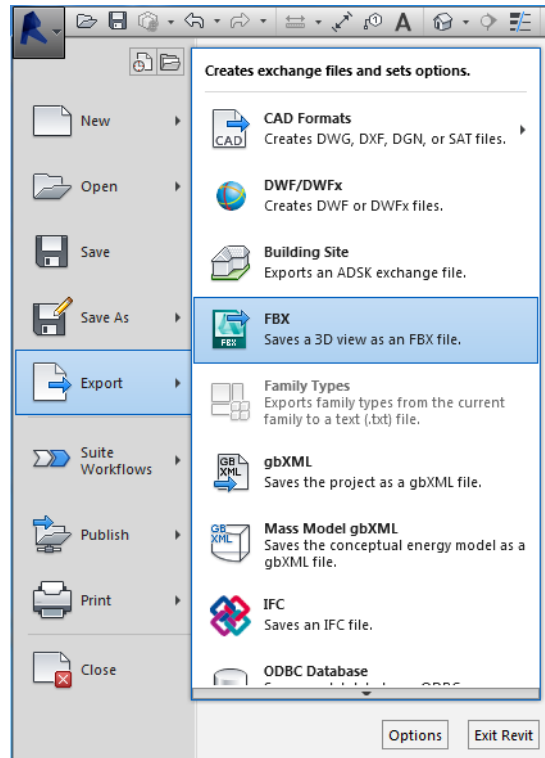

FIGURE 10: EXPORTING 'MISSING OBJECTS' AS FBX FILES
- b. Exports the missing object as FBX file. (Figure 10)